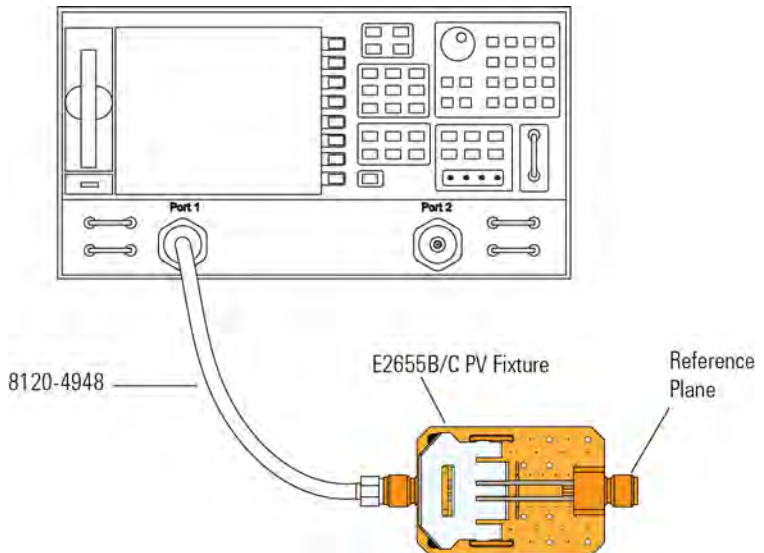

Figure 209 PV Fixture Connected to VNA
- 10** Connect one of the high quality SMA cables from the VNA's **Port 1** to the pincher side of PV Fixture as shown in Figure 209. The figure also identifies the calibration reference plane.